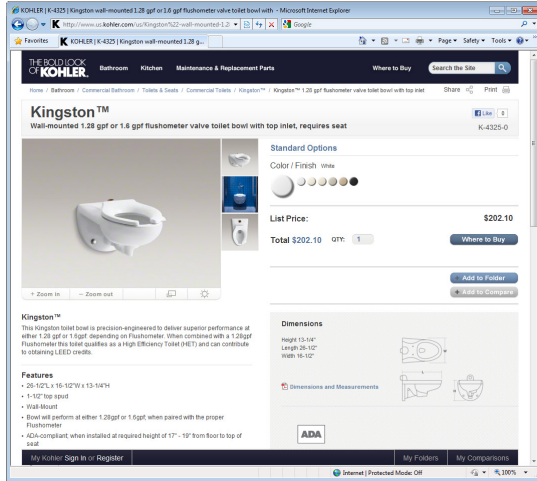

FIGURE 4-1.2 Website: www.kohler.com; search results
- Click directly on the toilet image (the one without the bedpan lugs) (Figure 4-1.2).